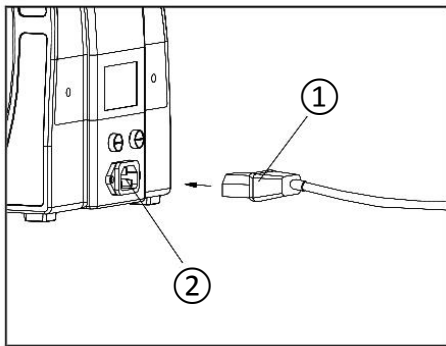

Fig. 5
Insert the connector ① of power cord securely into the power socket ②, (see Fig. 5).